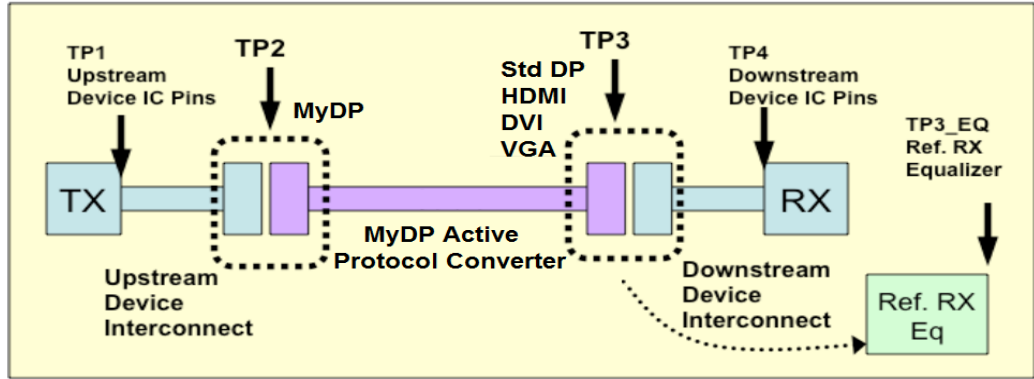

Figure 126 Test Points for MyDP 1.0 AUX Channel Tests
You must test the Source devices at Test Point 2 (TP2) while the Sink devices must be tested at Test Point 3 (TP3). See Figure 126.
- 3 On the DisplayPort Compliance Test Application, click the **Set Up** tab (see Figure 126).